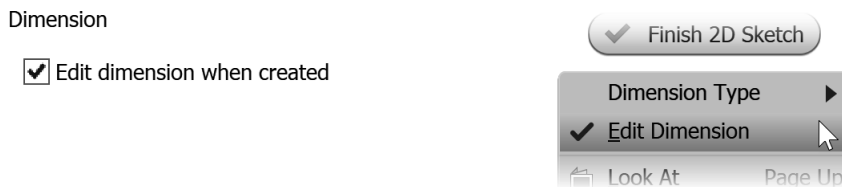

Figure 2.58
- Click the Tools tab > Options panel > Application Options. On the Sketch tab of the Application Options dialog box, from the Constrain Settings area, click the Settings button and then click the box next to "Edit dimension when created" as shown in Figure 2.58 left.
- Set the option by right-clicking in the graphics window while placing a dimension and click Edit Dimension from the menu as shown in Figure 2.58 right. This method will change the application option "Edit Dimension when created" as previously described.